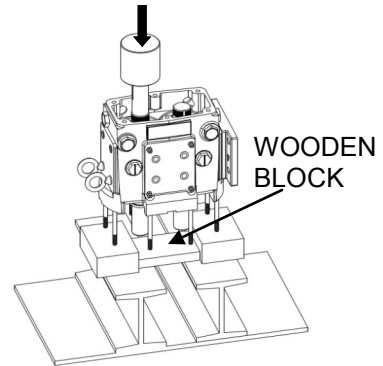

Figure 40: Pressing Shafts From Gear Case
4) Set the gear case in a press with the fluid end side facing down (Figure 40). Use a wooden block to protect the shafts from hitting the ground when pushed out. Once the protective block is in place push the shafts out of the gear case. Reference Table 4 for the required force (in tons) needed to press the shafts out of the gear case.